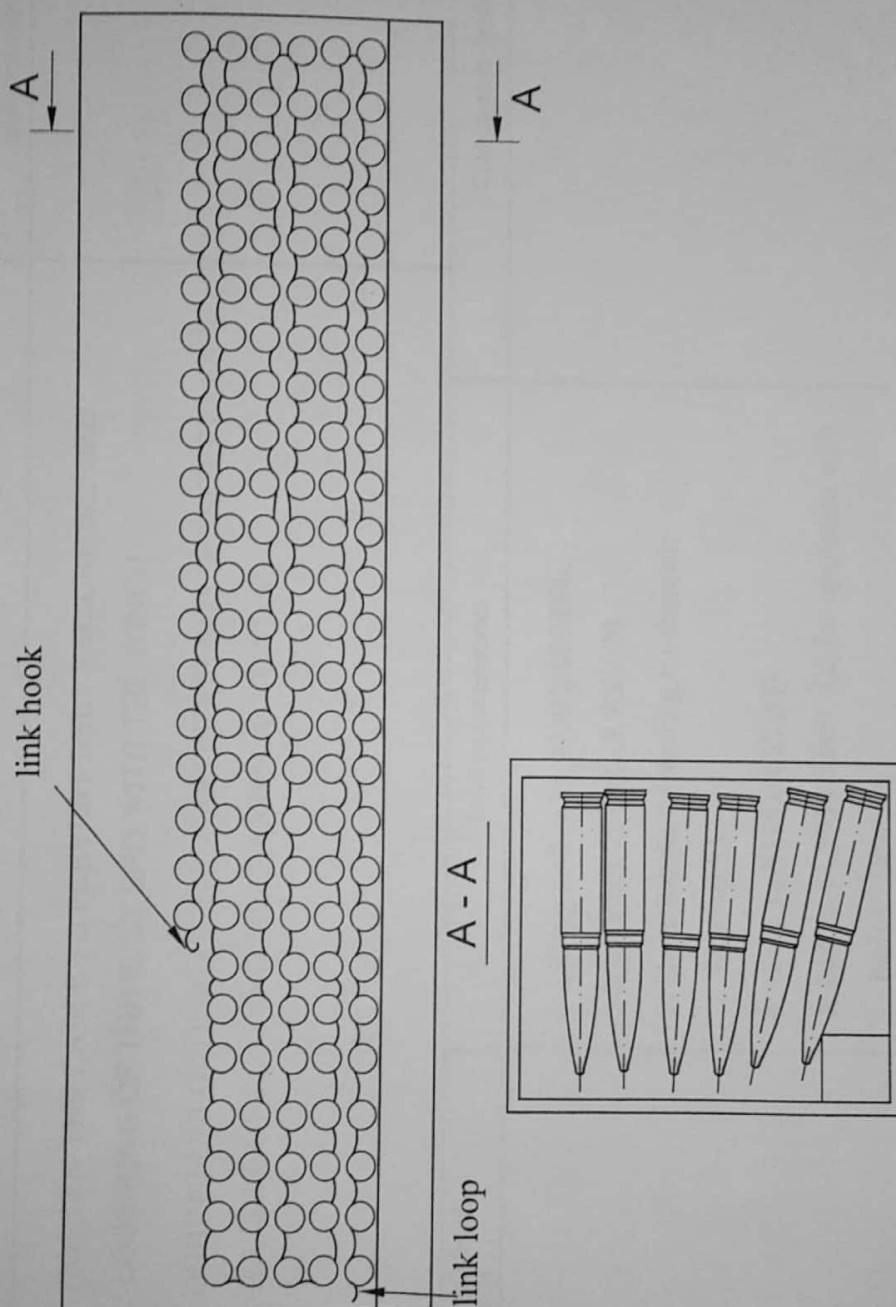

Fig. 210: Loading of ammunition in container for transportation and storage.
<p>Put the cartridge on the gear wheels of the loading mechanism.</p> <p>To prevent incorrect position of the cartridges on the winch, it is recommended to install on the button (13) the second cartridge from the belt end (No.148 at the basic loading and No.28 at training loading);</p> <ul style="list-style-type: none"> - remove the loop from the rails on the bottom of the cartridge-box in front of the winch; - gradually lower the belt into the container. For that turn the winch handle with right hand and hold the cartridge-belt with left hand above the winch barrel; - remove cartridge-belt loops from the rails one after another with the hook, attached on the swab rod. Lower the cartridge-belt into the container using loading mechanism; - turn one or two last loops that remain on the rails, with a hook. Put them on the bottom of the box; - push the cartridge-belt from the flexible feeder hose to the rigid feeder hose. At that use the hook and screwdriver to hold the free link on the belt and prevent it from engagement with elements of flexible feeder hose; - remove remaining cartridge-belt from the box and lower it in the container using loading mechanism. Prevent engagement of the links with rigid pivoting door of the cartridge-box to avoid its deformation (Fig. 210); - install the stop on the cartridge-box rails and attach it together with pneumatic pusher with quick-removable stud.